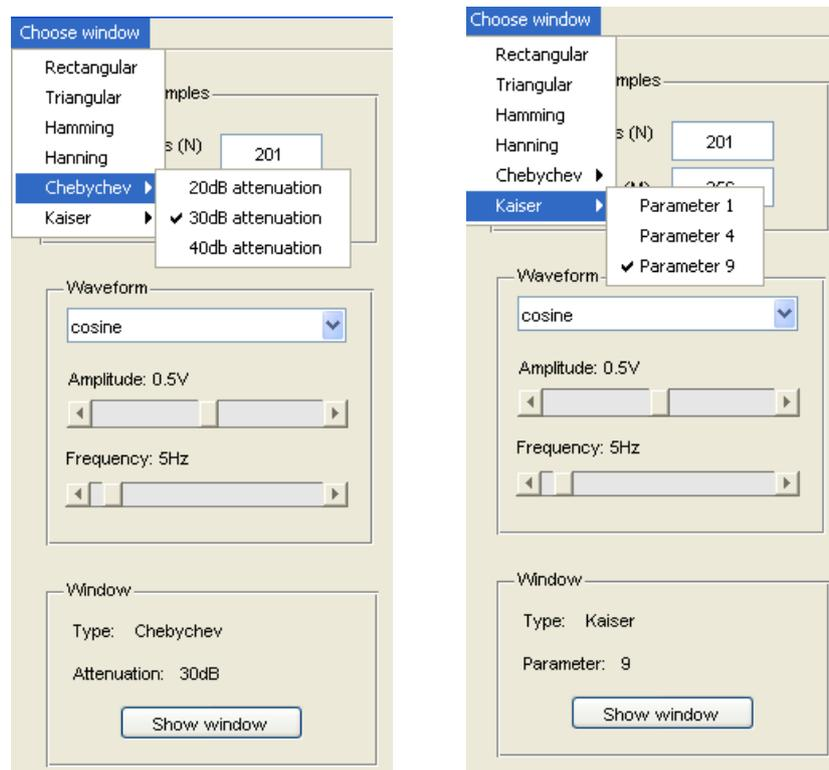

Fig. 2. Selection of the window signal
- If the selected window is of type “Chebychev” or “Kaiser”, another line with additional information (attenuation or parameter) must appear. See Fig. 2. If the window is any other, this additional line must be not visible.
- In the case of Chebychev and Kaiser a submenu must appear. The Chebychev window can present an attenuation factor of 20dB, 30dB or 40dB. And the Kaiser window may be designed with parameter equal to 1, 4 or 9. See Fig. 2.
Control configuration: We will use the control configuration shown in Fig. 2. For the sake of simplicity we will focus only in the inner loop (the one that compensates the pendulum inclination). The controller is a Proportional-Integral-Derivative (PID) law